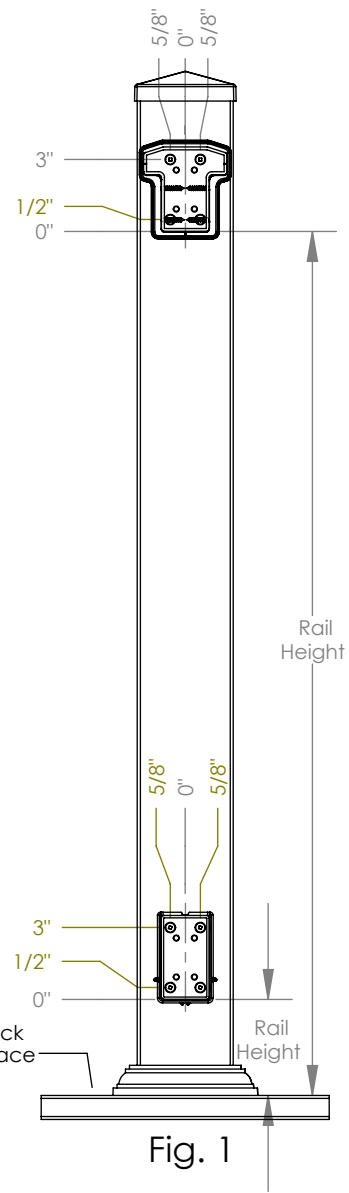

Fig. 1
- 1) Layout locations for brackets as shown in Fig. 1 (four holes for each bracket).